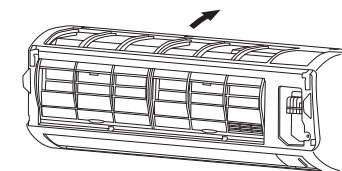

Fig. 3-43
- When installing the grille, place the bottom of the grille into the frame first. (Fig. 3-43)